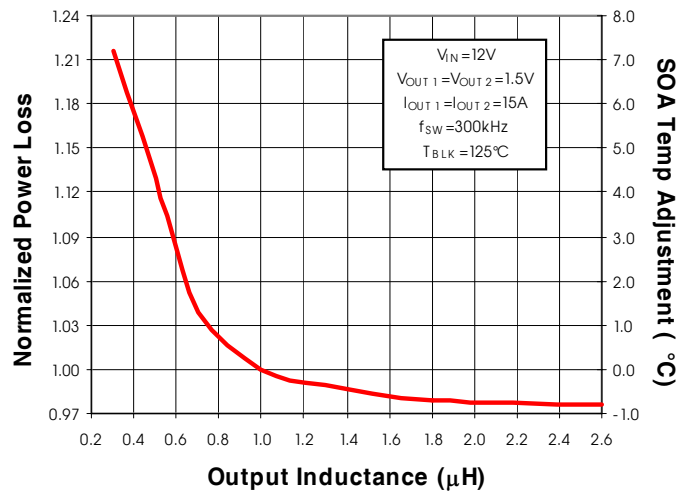

Fig. 7: Normalized Power Loss vs. Inductance
(Fig. 7) Normalized power loss for inductor value  $\approx 0.98$
- (Fig. 7) Normalized power loss for inductor value  $\approx 0.98$
- (Fig. 7) Normalized SOA Temperature for inductor value  $\approx -0.7^{\circ}C$